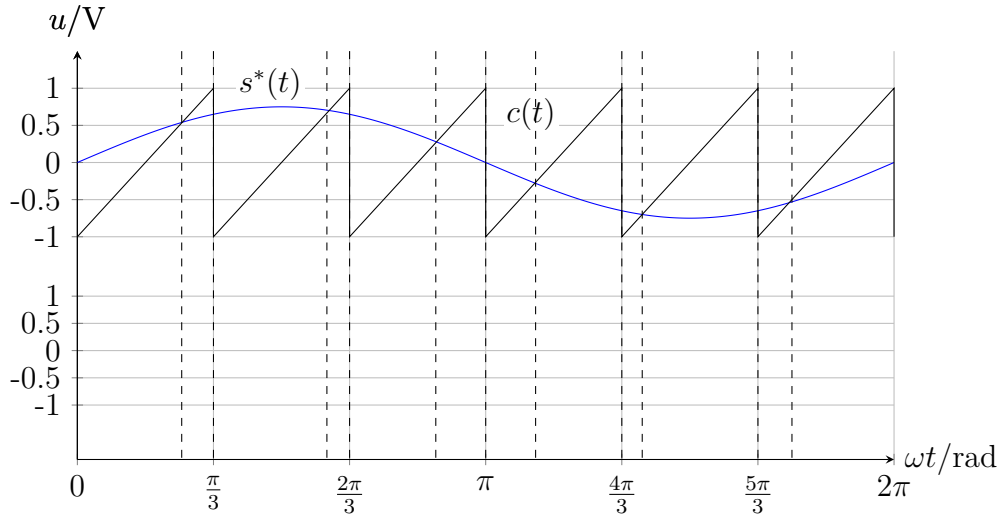

Figure 7.1.2: Output voltage  $u_2(t)$  and fundamental voltage component  $u_2^{(1)}(t)$ .
7.1.1 Draw the converter's output voltage  $u_2(t)$  belonging to Fig. 7.1.2. and its fundamental component  $u_2^{(1)}(t)$ . How large is the phase difference  $\varphi_{2i}$  of the voltage fundamental component  $u_2^{(1)}(t)$  compared to the internal load voltage  $u_{2i}(t)$ ?